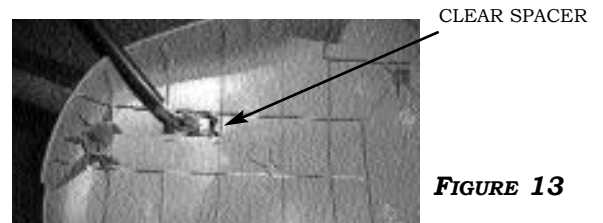
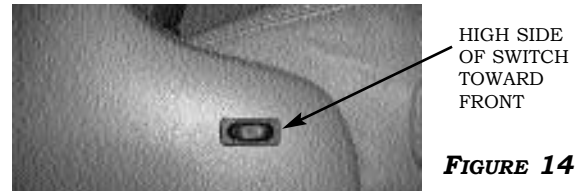

FIGURE 13
FIGURE 14
PULL SWITCH HARNESS THROUGH OPENING AND SNAP INTO PLACE. ENSURE THAT THE HIGHER SIDE OF SWITCH IS TOWARD FRONT AND SWITCH LEGS SNAP IN PLACE SECURELY. **FIGURE 13.**
2. USE OF THE CLEAR PLASTIC SPACER (INCLUDED IN SMALL PARTS PKG) IS NOT NECESSARY FOR THESE SHIELDS, BUT MAY BE USED ON THE SEQUOIA FOR STABILITY OF THE SWITCH. PLACE PLASTIC SPACER ON INBOARD SIDE OF SHIELD, PULL HARNESS THROUGH OPENING AND SNAP SWITCH INTO PLACE. **FIGURE 13** ENSURE THAT THE HIGH SIDE OF SWITCH IS TOWARD FRONT (**FIGURE 14 & 16**) AND SWITCH LEGS SNAP IN PLACE SECURELY.